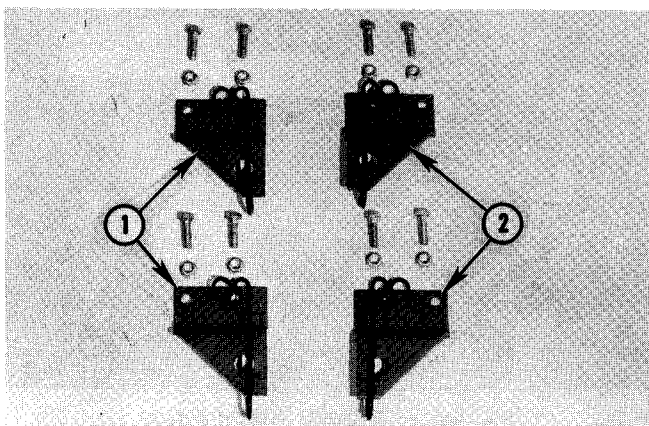

Fig. 39 — Mower Anchor Plates
2. Prior to attaching to Tractor frame, position retainer springs on anchor plates as shown in Fig. 39.